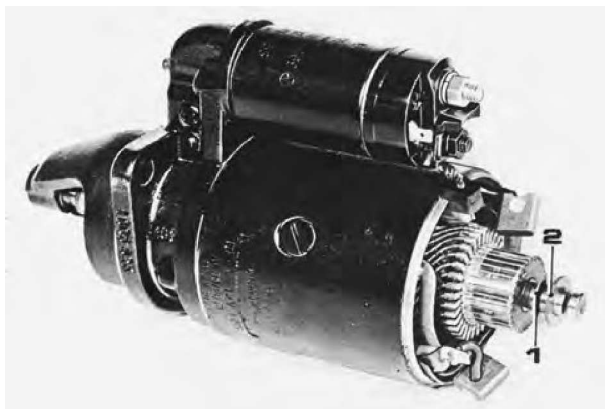

Fig. H2. Starter motor with brush bridge removed
N. B. The washers are according to Fig. H2. When the bridge is removed, the negative brushes also follow, but the positive brushes will remain in the field winding.